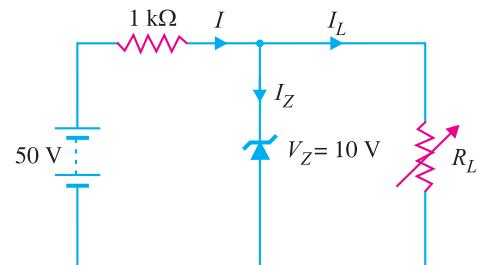

Fig. 6.80
15. In the circuit shown in Fig. 6.80, determine the range of R_L that will result in a constant voltage of 10 V across R_L . **[250 Ω to 1.25 kΩ]**